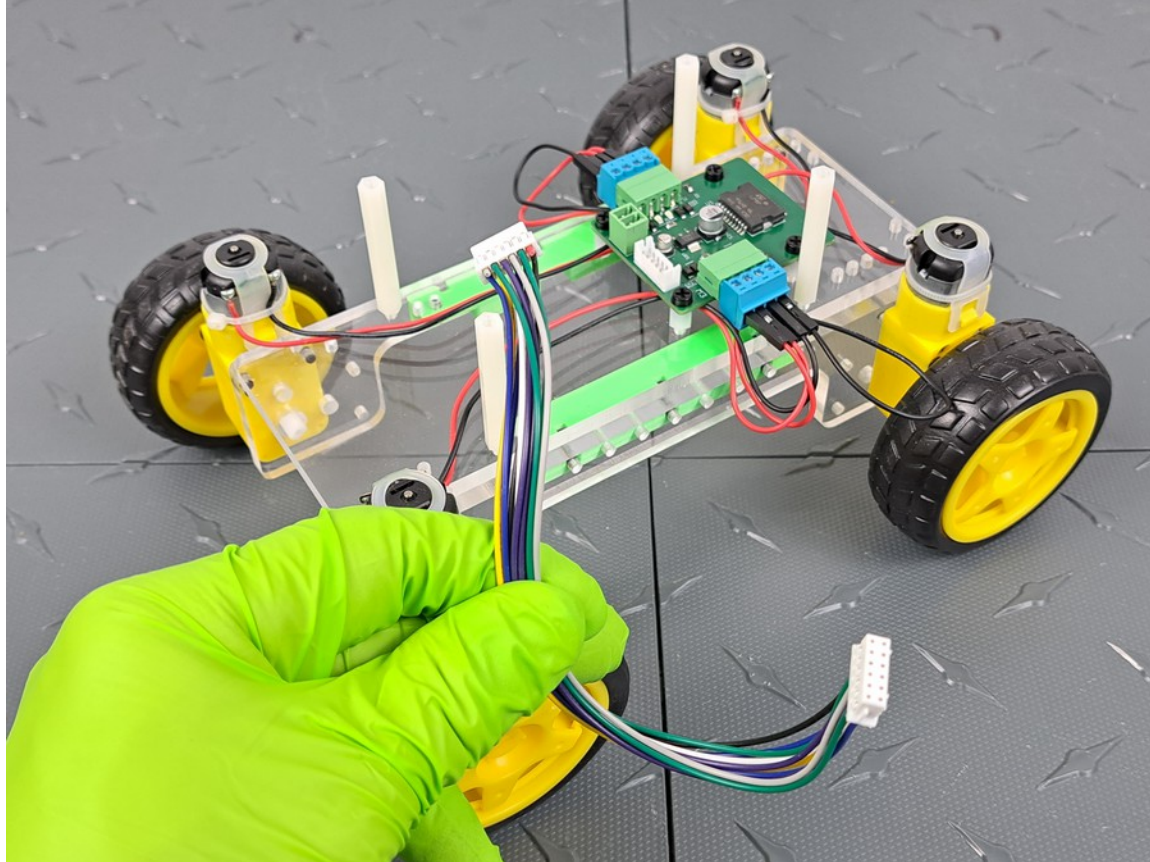

Figure 8 – Signal cable
**8. Locate the Signal Cable as shown in figure 8.**